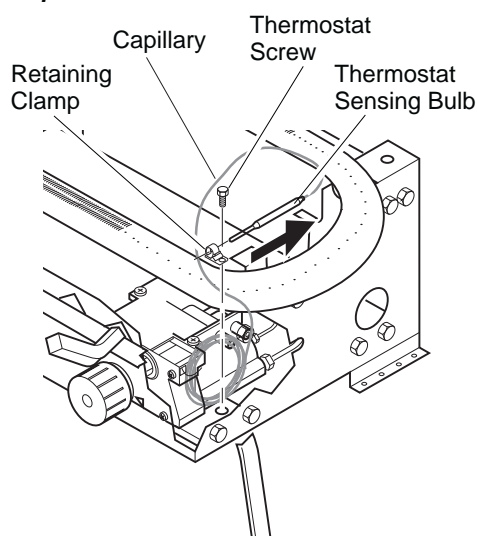

Figure 30 - Removing Thermostat Sensing Bulb
3. With 1/4" hex driver or socket, loosen the thermostat screw. Carefully slide the thermostat sensing bulb out of the retaining clamp (see Figure 30).